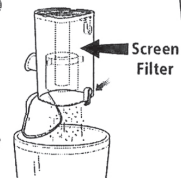

Fig. 22
- If needed, turn the dust cup upside down over the trash receptacle and press the top door release button. (Fig. 22) Tap gently to remove contents. Use a dry cloth or paper towel to remove debris stuck to the screen filter inside the dust cup. Press the door shut again until it clicks.